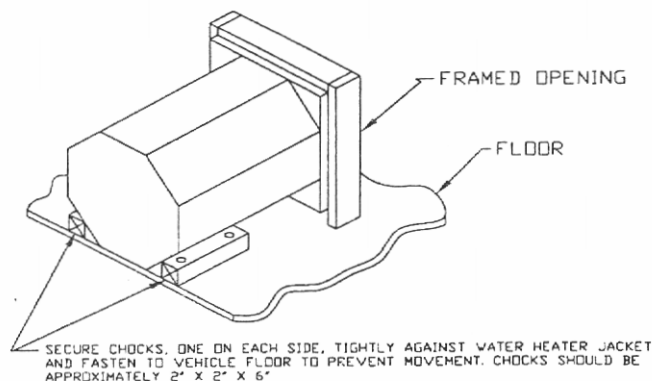

Figure 1A
C. Install chocks, one on each side of water heater, as illustrated in Figure 1A.
G. Insert door frame into control housing and secure with four (4) No. 8-15 x 3 1/2" screws provided.